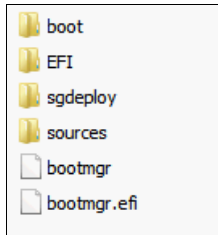

Figure 8-50 Contents of the USB key
- c. Copy the contents from C:\sgshare\sgdeploy\WinPE_ScenarioOutput\Local_Win2008_R2_x64_EE\ISO to the USB key. The USB key includes the folders and files that are shown in Figure 8-50.